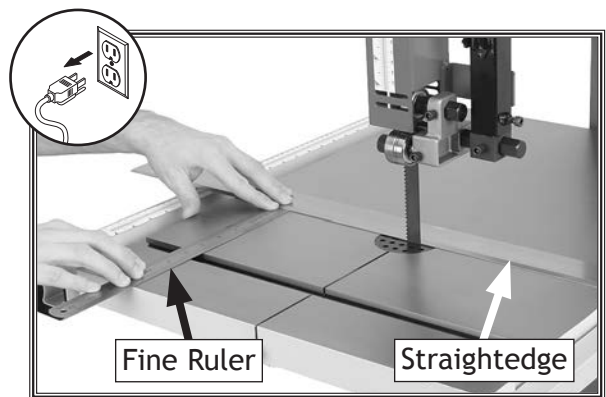

Figure 59. Checking miter slot parallelism.
3. Place an accurate straightedge along blade so that it lightly touches both front and back of blade without going across a tooth (see **Figure 59**).
4. Use a fine ruler to measure distance between straightedge and miter slot (see **Figure 59**). Distance should be the same at front and back of table.